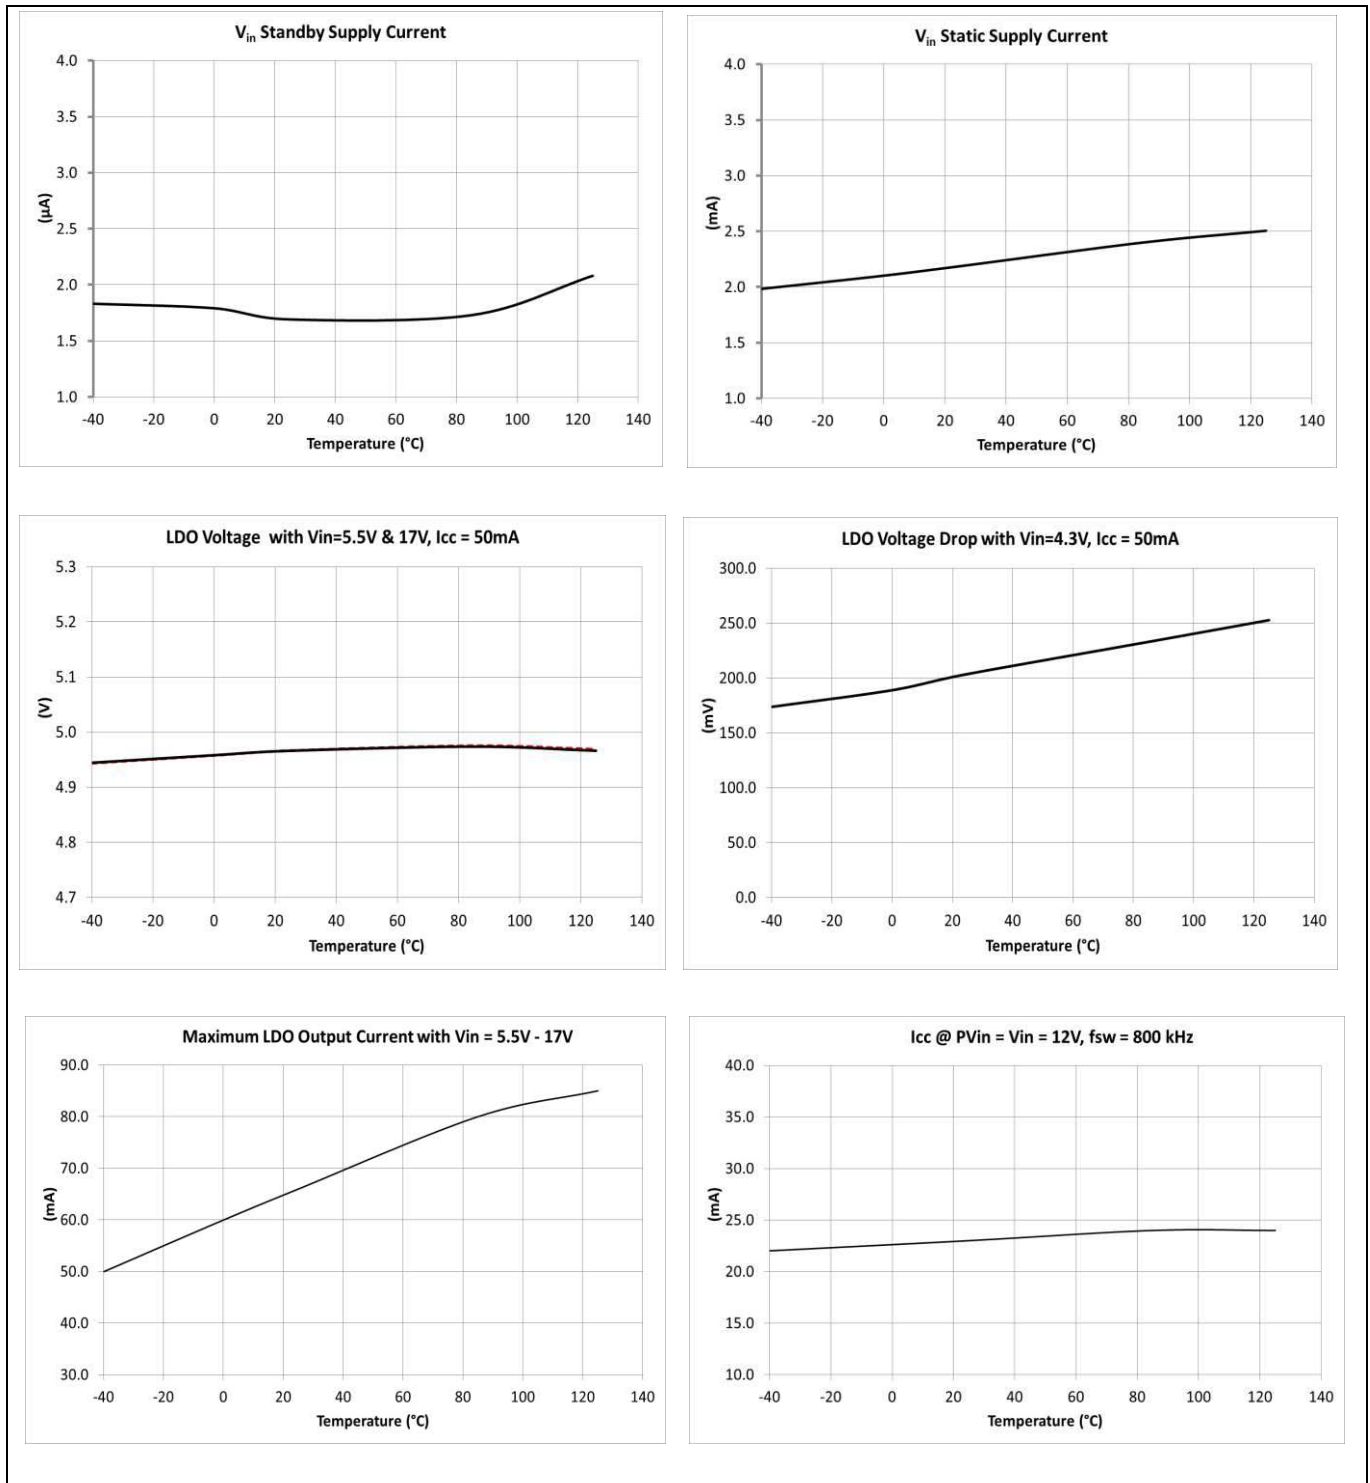

Figure 6 Typical operating characteristics (set 1 of 3)
- When using the internal LDO with  $5.5\text{ V} \leq V_{in} \leq 17\text{ V}$ , it is recommended to check the required VCC bias current for the operation above 1.6 MHz, to ensure that it does not exceed the LDO output current capability as shown in Figure 6. With the increase of  $f_{sw}$ , the resulting  $I_{CC}$  is also increased mainly due to the increase of the gate charge that is proportional to  $f_{sw}$ . In Figure 6, the typical  $I_{CC}$  at  $PV_{in} = V_{in} = 12\text{ V}$  and  $f_{sw} = 800\text{ kHz}$  has been provided, which can be used to estimate the  $I_{CC}$  at other  $f_{sw}$ .